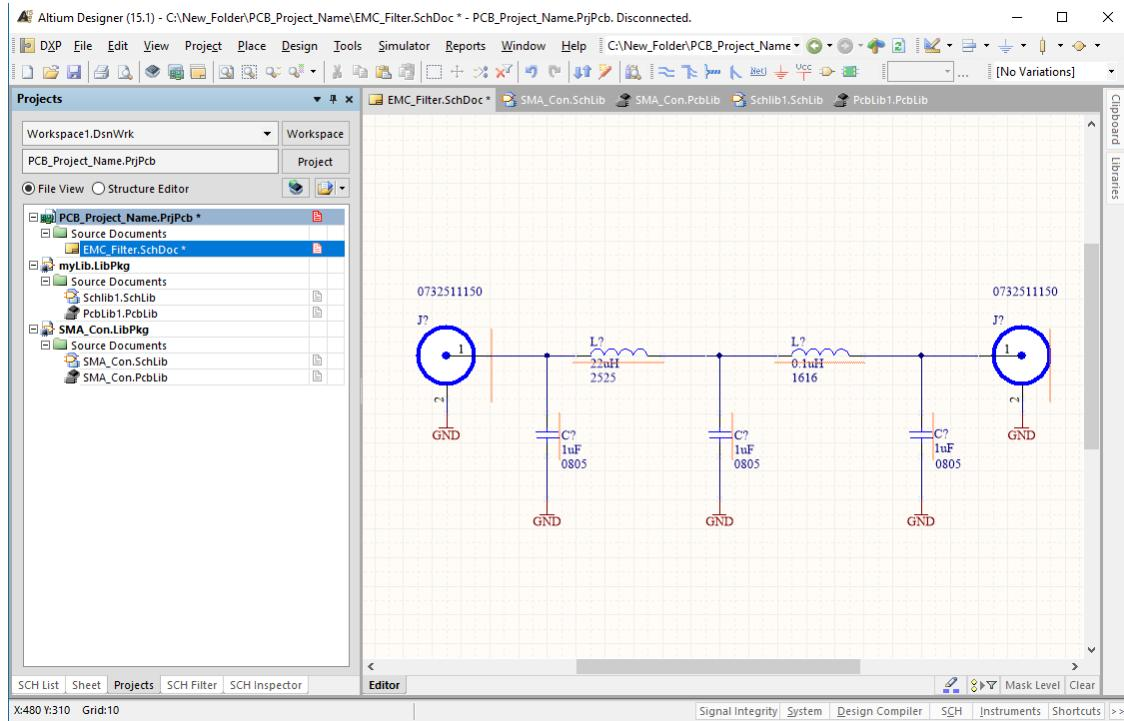
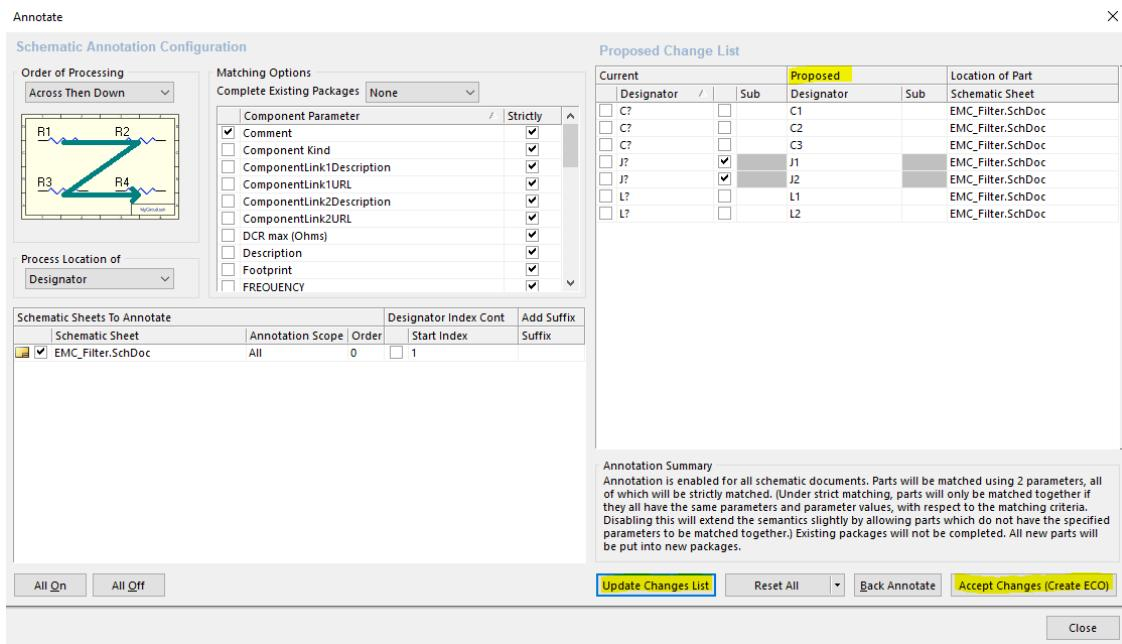

Figure 54: Altium Schematic wire.
Figure 57: Altium Schematic Annotate Dialog.
33. Next step is to wire the schematic so press **P** for place and **W** for wire. Draw the wires between the components as shown in Figure 54. To make the Power Port 'GND' use the highlighted symbol on top of the screen as shown in Figure ???. By pressing **TAB** you open the the Power Port dialog that allows you changes to the style of the port and the Net Name.
34. Figure 54 shows that each component has a red curly line which means there is an error that has not been resolved yet. In this case the error is that all the components on the sheet have the same reference designators. Use the Annotation Tool as followed **Tools** → **Annotate Schematic** the Annotate dialog opens as shown in Figure 57.
35. The Annotate dialog is shown in Figure 57. First, click button **Update Change List** which updates the Current Designator to the Proposed Designator. This does not make any changes yet in the schematic as you would see if you close the dialog. To execute the changes into the schematic document press **Accept Changes: (Create ECO)** which opens an Engineering Change Order dialog.